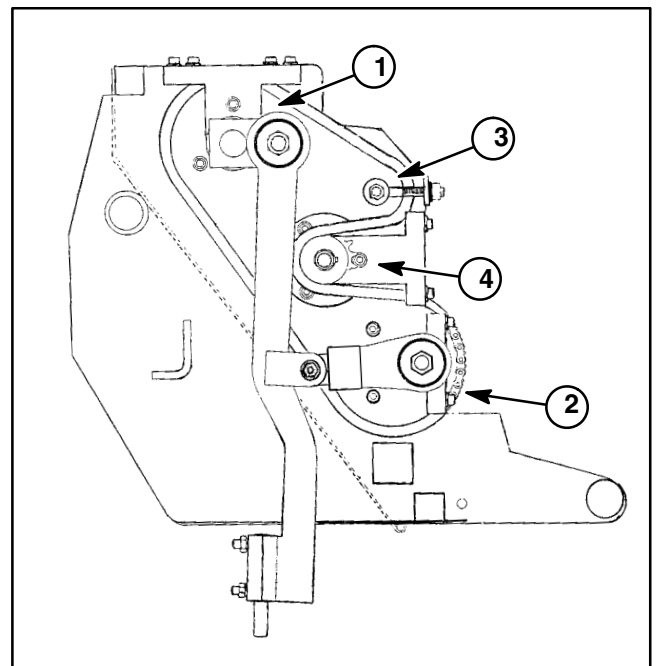

Figure 6
4. Route upper free end of chain downward in front of idler sprocket, behind drive sprocket on power shaft and then around front of lower crank arm assembly sprocket to opposite end of chain (Fig. 6).